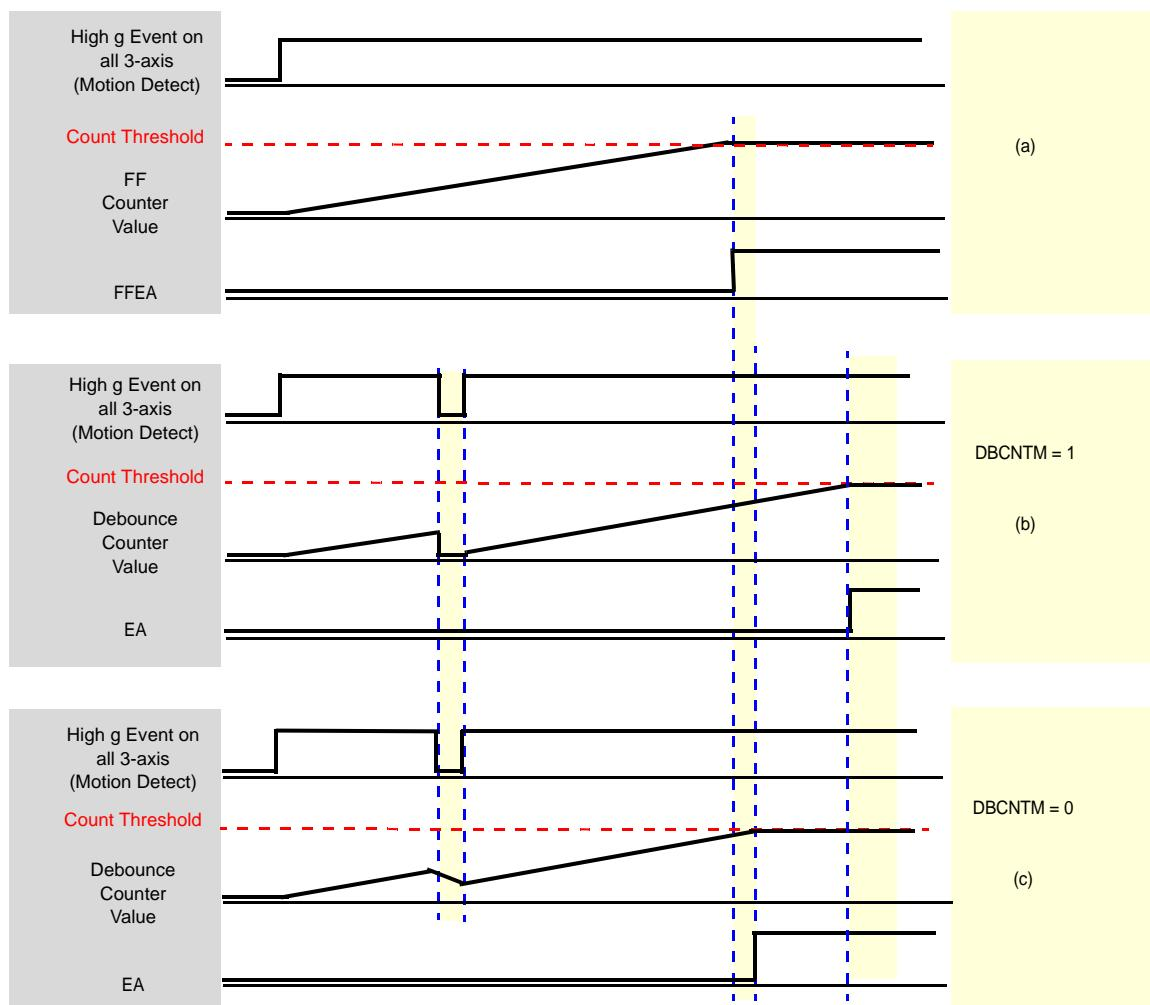

Figure 15. DBCNTM bit function
- When the DBCNTM bit is 1**, the debounce counter is cleared to 0 whenever the inertial event of interest is no longer true as shown in Figure 15, (b).
- While the DBCNTM bit is set to 0**, the debounce counter is decremented by 1 whenever the inertial event of interest is no longer true (Figure 15, (c)) until the debounce counter reaches 0 or until the inertial event becomes active.